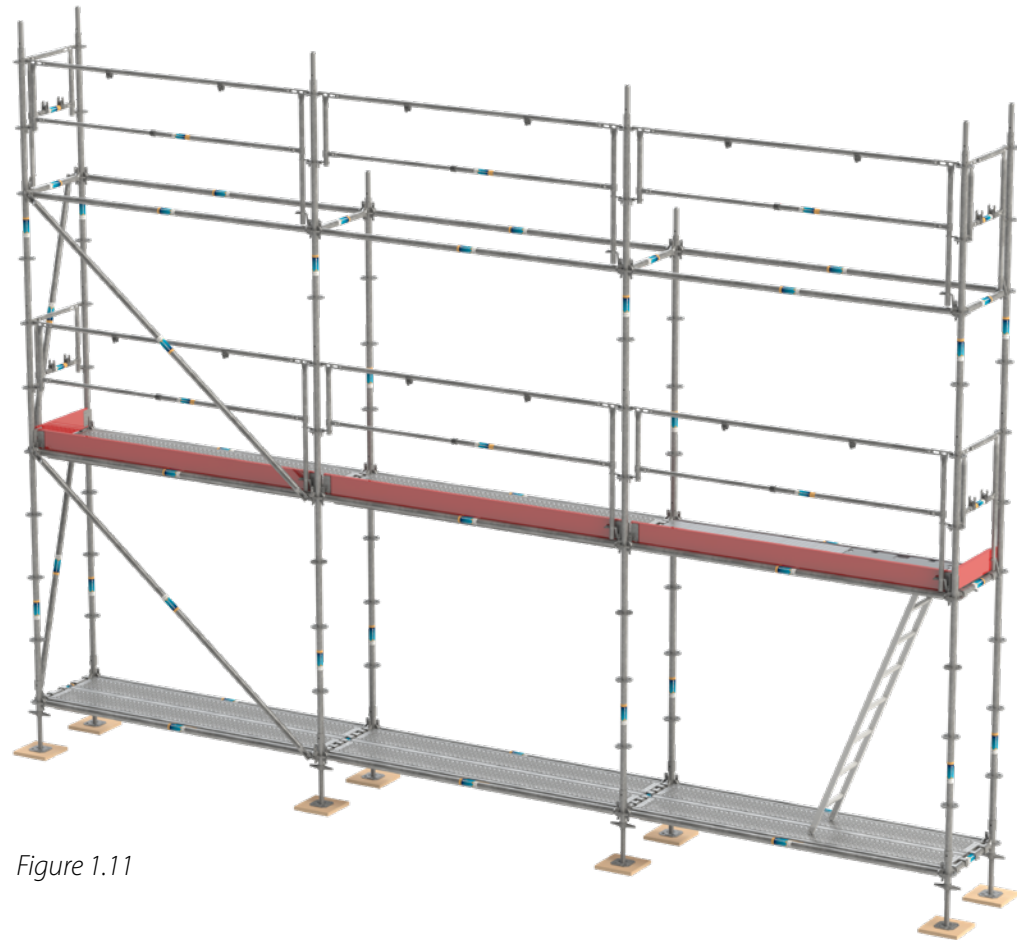

Figure 1.11
1.2.13 Position the next set of RINGSKAFF PAGs (see figure 1.11) and repeat steps 1.2.8 to 1.2.10.